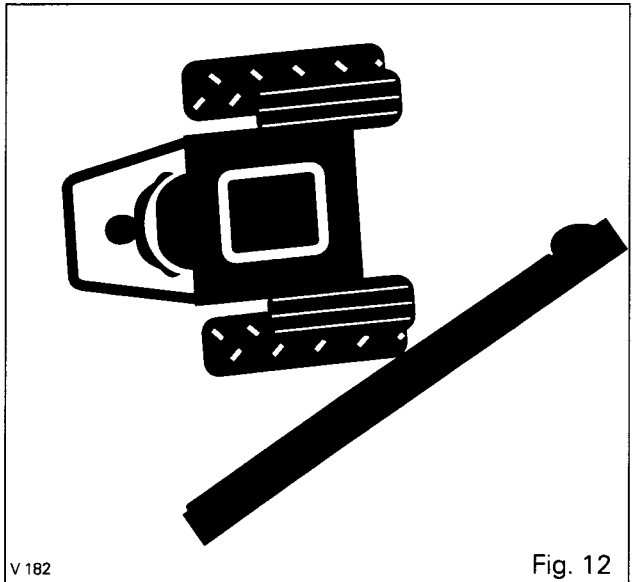

Fig. 12
- Avoid crossing steep slopes if possible. If you must do so, avoid any holes or depressions on the downhill side. Avoid any stumps, rocks, bumps or raised areas on the uphill side (Fig. 12).